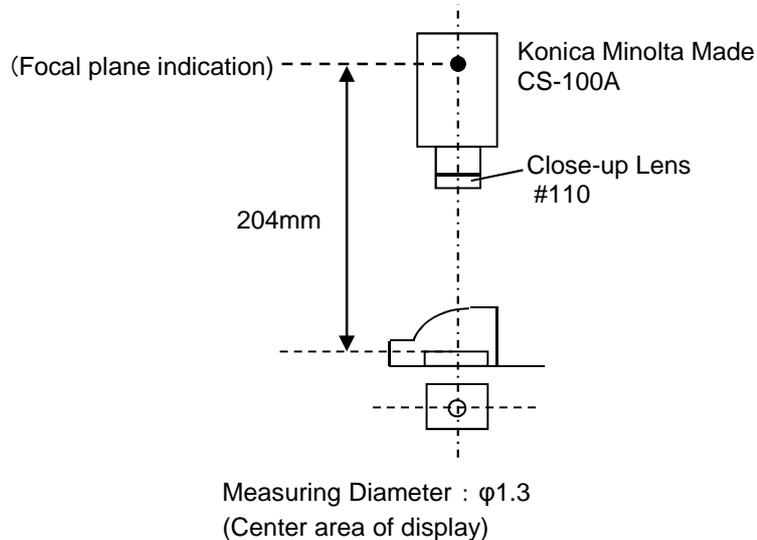

Fig.11. Optical Measurement
*1: Any defects that cannot be detected with focusing on the display focal plane as described in Fig. 11 are ignorable.